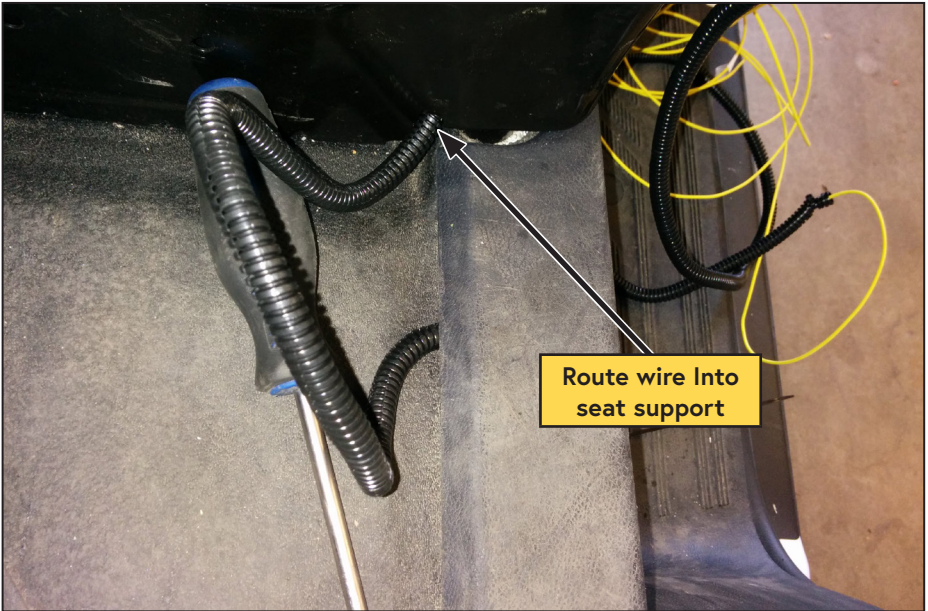

Figure 64 — Driver side seat support
- Route the loomed wires through the gap in the driver side seat support (Figure 64).